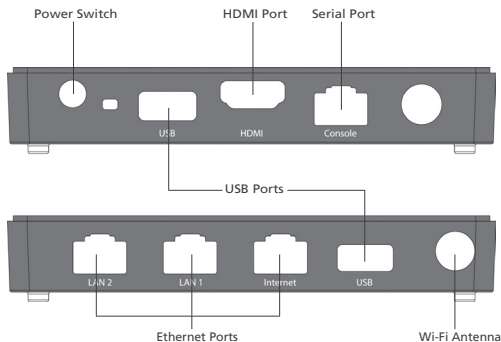

Figure 1 Kerio Control NG100W (front + back)
- Kerio Control NG100W — Desktop appliance — see figure 1.